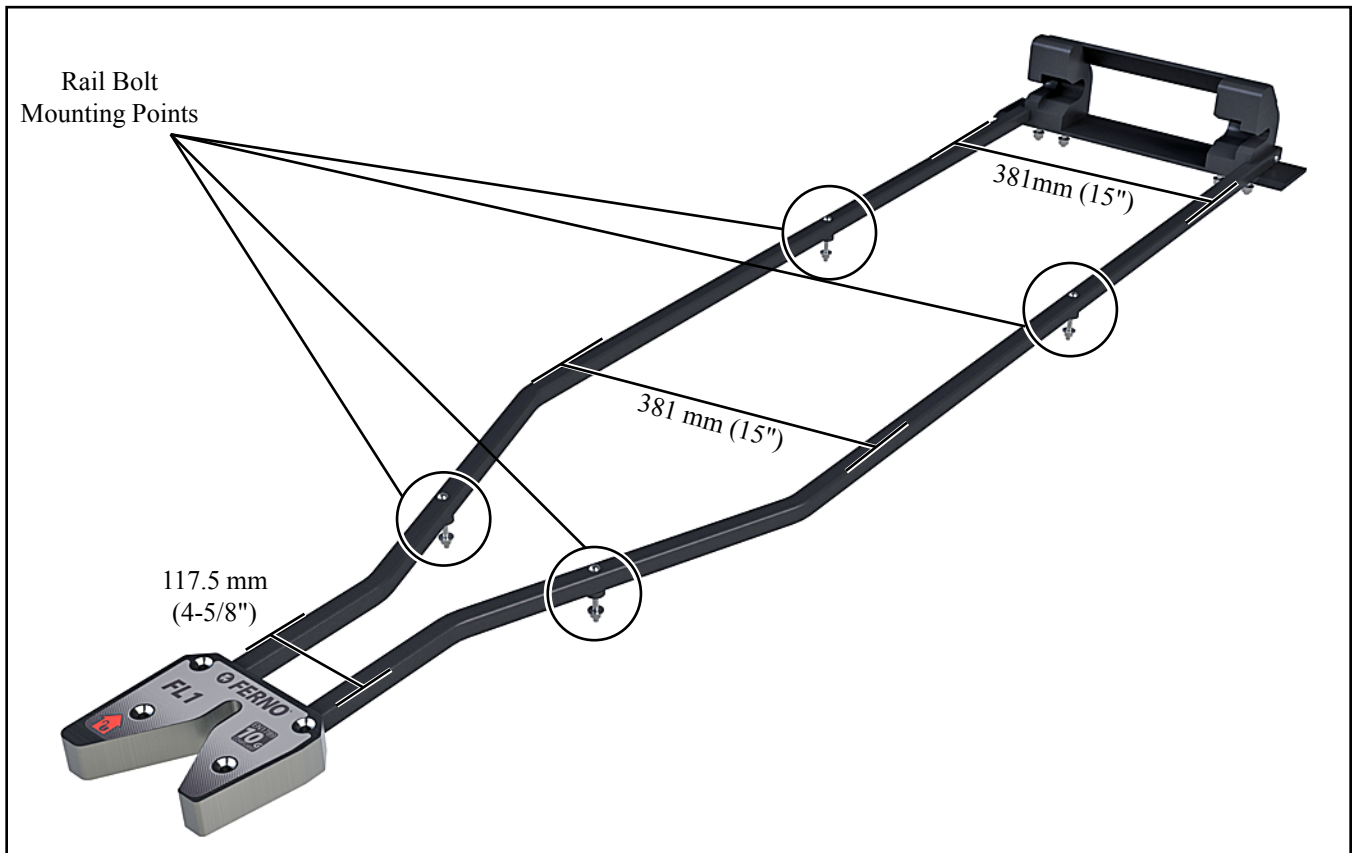

Figure 15 - Securing the Rails
1. Locate the rail-bolt mounting points (Figure 15).
2. Refer to the measurements in Figure 15. Do not flex the rails away from one another or squeeze them together. The rails should rest at about the measurements indicated. Use a marker, pen, or other device to mark the four mounting points on the ambulance floor.